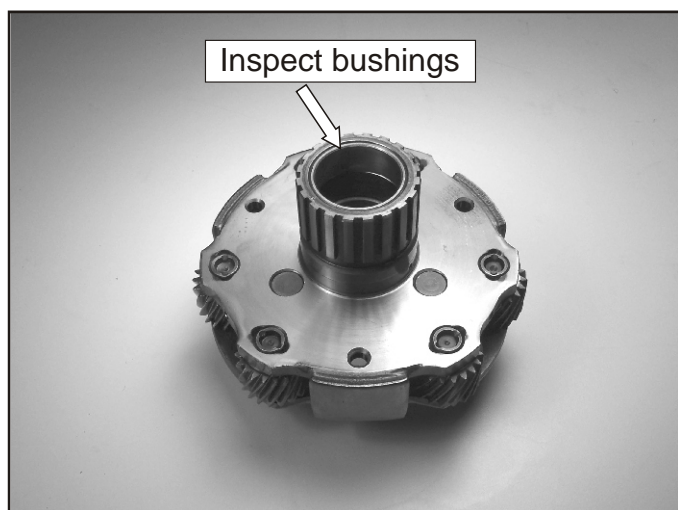

Figure 242
- 170. Inspect the bushings in the planetary as shown in Figure 242. Replace as necessary.